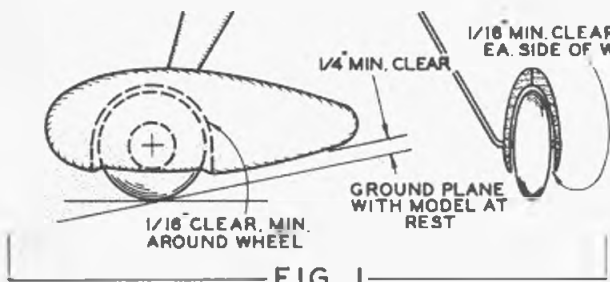

FIG. 1
► Gil Miles sends info on a transmitter used in the wide open spaces of New South Wales, Australia. Fig. 1 is the schematic. While different from most of the RC transmitters, this is a rather conventional circuit which performs quite well and has good stability. We'd suggest something like this for an endurance flight, as outlined under *Club News*. The British frequency of 27.120 mc is used, although the identical circuit and component values could be used on 27.255 mc if the crystal frequency is changed to 6,814 kc. Tank circuit L_1 is tuned to the crystal frequency of 6,814 kc and tank circuit L_2 is tuned to 27.255 mc. This outfit looks very neat and well planned.
Regardless of the type construction you may select, or even if commercially available sheet metal pants are used, the minimum operating clearances, shown in Fig. 1, should be kept in mind. There will be instances, of course, as in the case of some scale models, where this will not be practical or possible, but for the general run of models, it will eliminate wheel jamming and reduce unnecessary scrapes and scars.